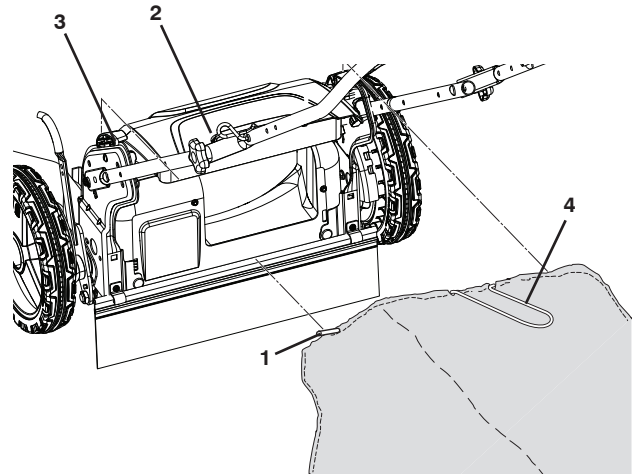

Figure 10
1. Lift rear door of the lawn mower and place the grass catcher frame hooks onto the grass bag brackets (Figure 10).